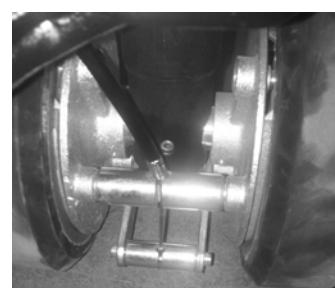

Fig.9: Progressive drive and parking brake
- a) Turn the pump 90 degree to right side, then pass through the brake cable behind the thrust plate.(Fig.9)
Check that the load does not exceed the loading capacity of the pallet truck. Roll the pallet truck with its forks slowly under the pallet/load until the back end of the fork rests against the load (Fig.9). Shift the operating lever down to the Lifting position. Lift the load by up- and down movements of the tiller arm.